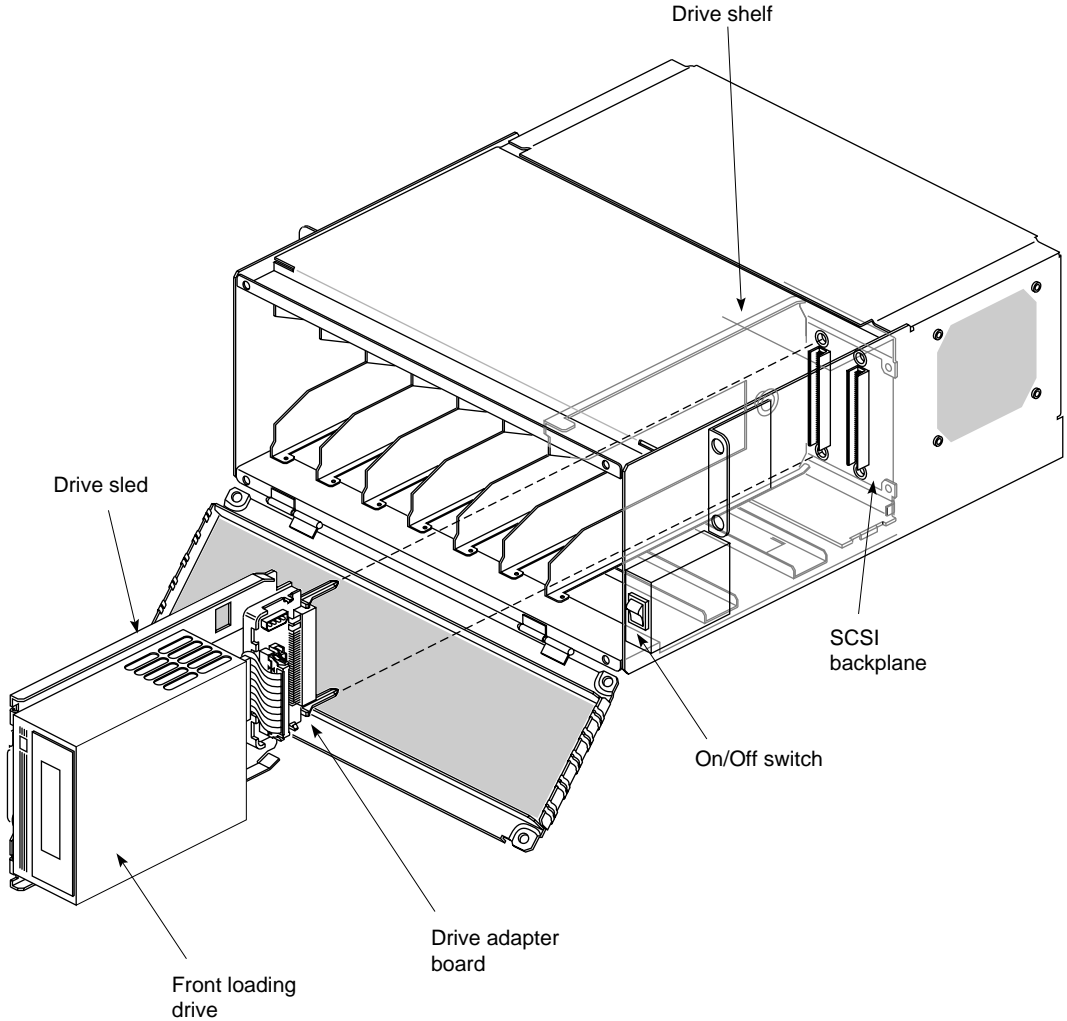

Figure 3-2 Installing or Removing a Drive from the SCSIBox 2
1. Orient the front-loading drive relative to the SCSIBox so that the drive is facing toward the right. See Figure 3-2.
3. After you have installed all of the drives, you can power on the drive box and rack. See Figure 3-2 if you do not know where the power switch is located.